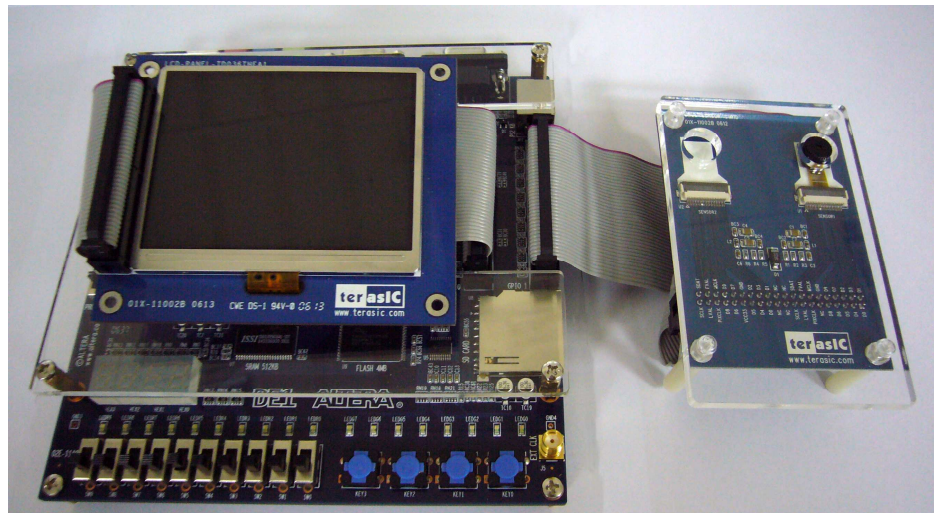

Figure 3.3. The Connection Setup for DE1 users (DC2 module is connected to JP2)
1. Ensure the connection is made correctly as shown in Figure 3.3. Make sure the IDE cable is connected to **JP2** of the DE1 board.